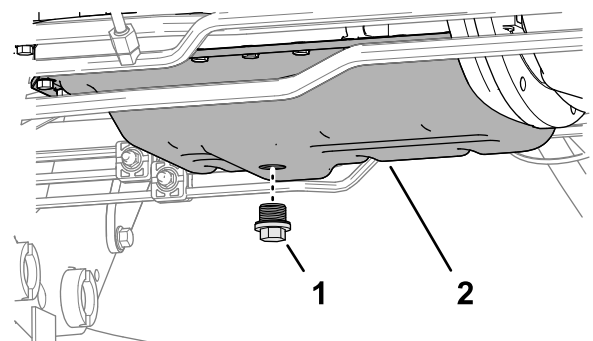

Figure 114
- Remove the drain plug (Figure 114) and let the oil drain into the pan.